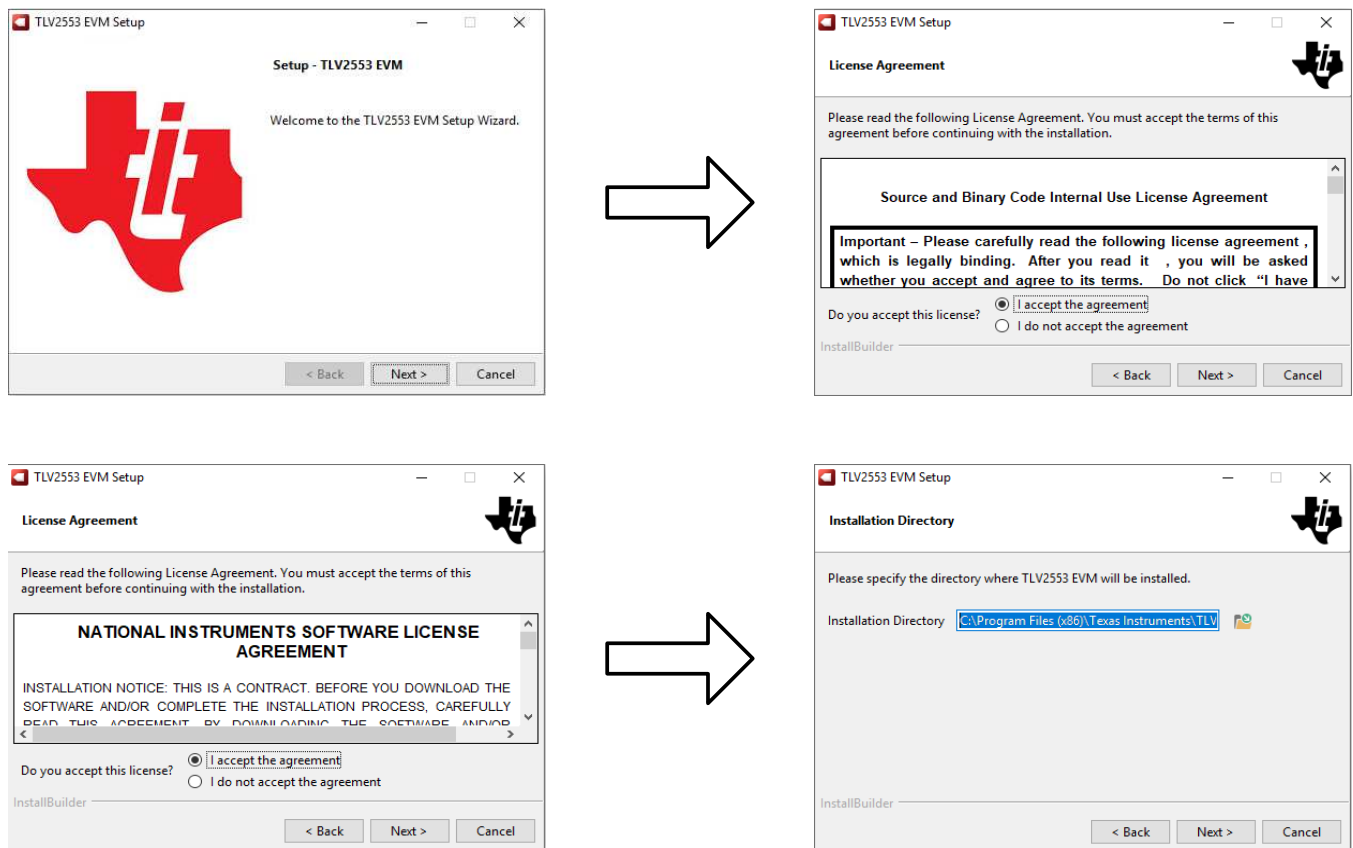

Figure 4. TLV2553 Software Installation Prompts
2. Accept the license agreements as shown in Figure 4 and follow the onscreen instructions to complete the installation.